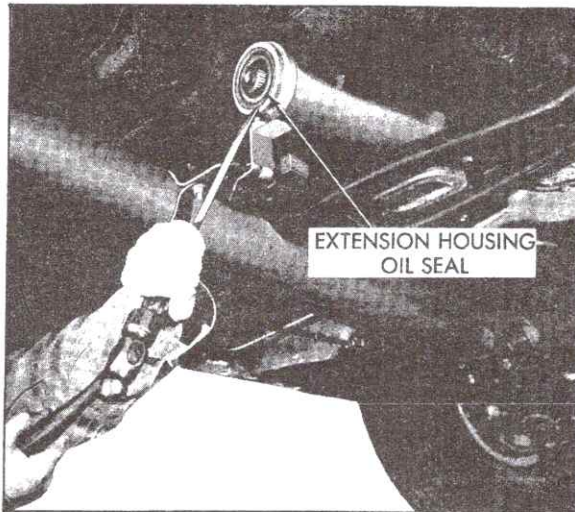

Fig. 7-24 Removing Extension Housing Oil Seal
3. Use hammer to drive screwdriver under lip of oil seal and pry seal out of housing, Fig. 7-24.